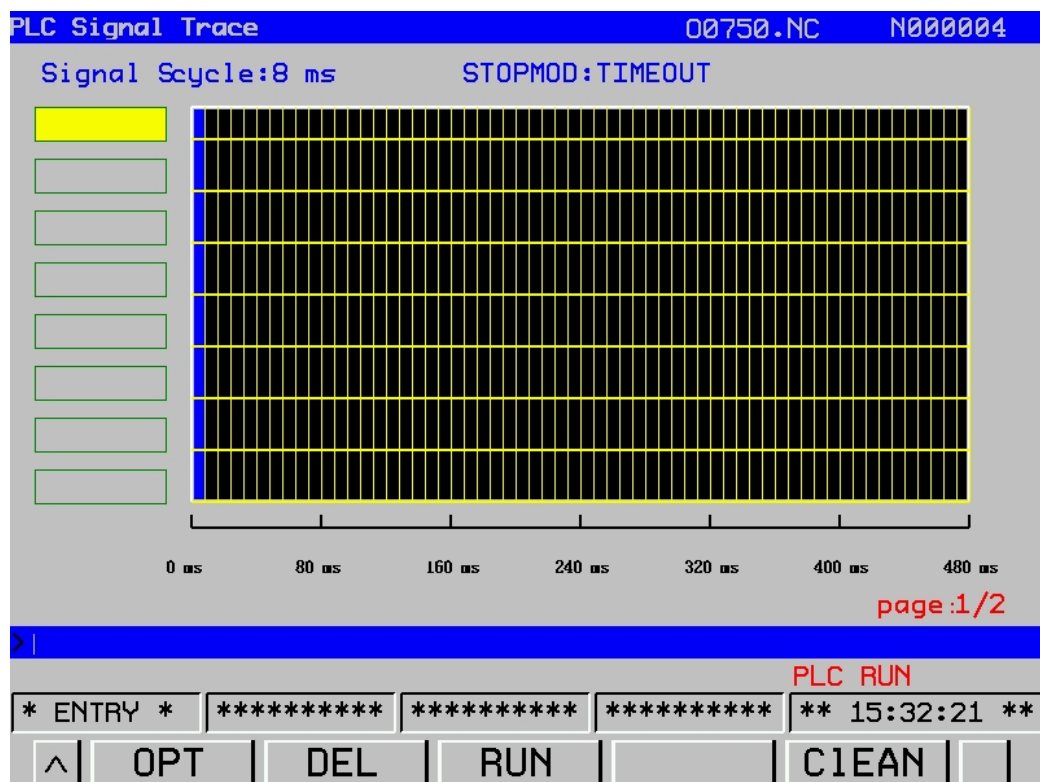

Fig. 3-6-11
Several corresponding interfaces are available: [F resource], [G resource], [X resource], [Y resource] and [TRACE], please refer to *Volume II: PLC and installation connection* of the manual for the significance of each diagnosis number and setting method. A signal trace is shown on Fig. 3-6-11.
- Press the softkey [OPT], when this signal is performed, the figure 3-6-11 frame may occur. If no signal is transmitted, a straight line is displayed in this case.